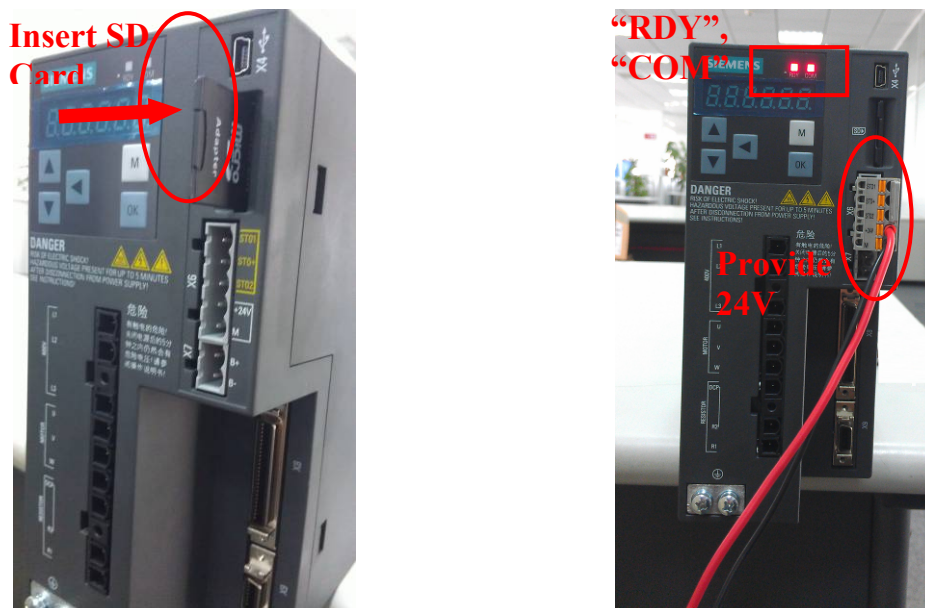

Figure 3 Insert the SD card and provide the 24V
- Plug SD card into the SD card slot on V90 drive and then power on 24 VDC power supply for V90 as figure 3.